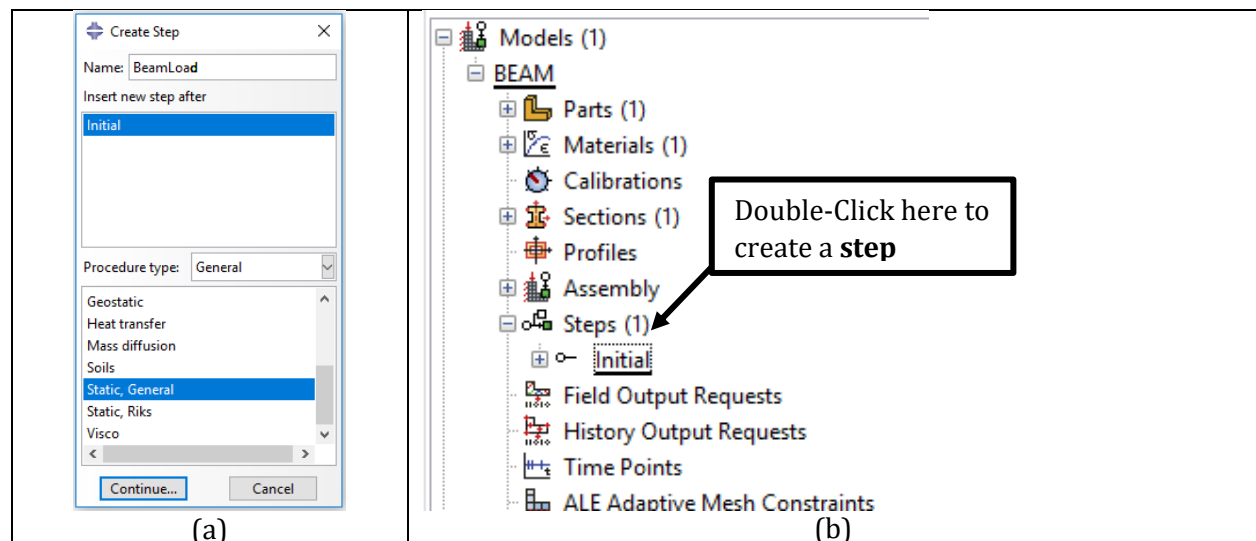

Figure 2-14 – (a) The Create Step dialog box and (b) the Model Tree.
4. In the **Edit Section Assignment** dialog box, accept the default selection of **BeamSection** as the section definition, and click **OK**. Make sure that **Thickness Assignment** is set to **From section**, Figure 2-14(a).
1. In the **Model Tree**, double-click **Steps** to create a new step in the model **BEAM**. See Figure 2-14 (b).
Abaqus/CAE switches to the Step module, and the **Create Step** dialog box appears, shown in Figure 2-14(a).